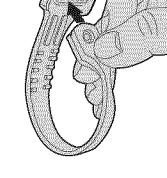

FIG. 6
2. Slip loop over electric plug and draw loop tight around cord (Fig. 6).